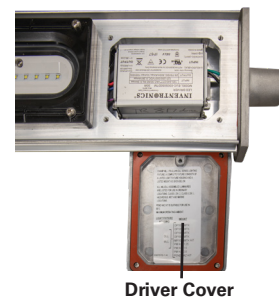

Figure 12
1. Open driver cover by loosening the four (4) #10-32 x .75" stainless steel cover screws (see Figure 12). All components in the fixture are pre-wired so only line in, neutral and ground need to be connected in the fixture to the lead wires (or terminals) per the wiring diagrams (see Figures 15 and 16) using methods that comply with all applicable codes. Terminate the equipment grounding conductor (green) first, the common (white) next, and finally, the line voltage (black) last. For DC voltage applications, connect the positive (+) lead to the white wire and the negative (-) lead to the black wire. Tighten all electrical connections. Note - Standard openings are 3/4" NPT.
3. Re-install the driver cover and tighten all four (4) cover mounting screws 32 in.-lbs. (3.6 N-m).
5. For the TF Suffix, use factory supplied fish line to pull through wire conductors for wiring to driver or to daisy chain multiple fixtures (maximum of five (5)). Refer to schematic for wiring. Only 3 conductors maximum are allowed through the hub closest to the driver and 3 conductors maximum are allowed through the hub farthest from the driver.